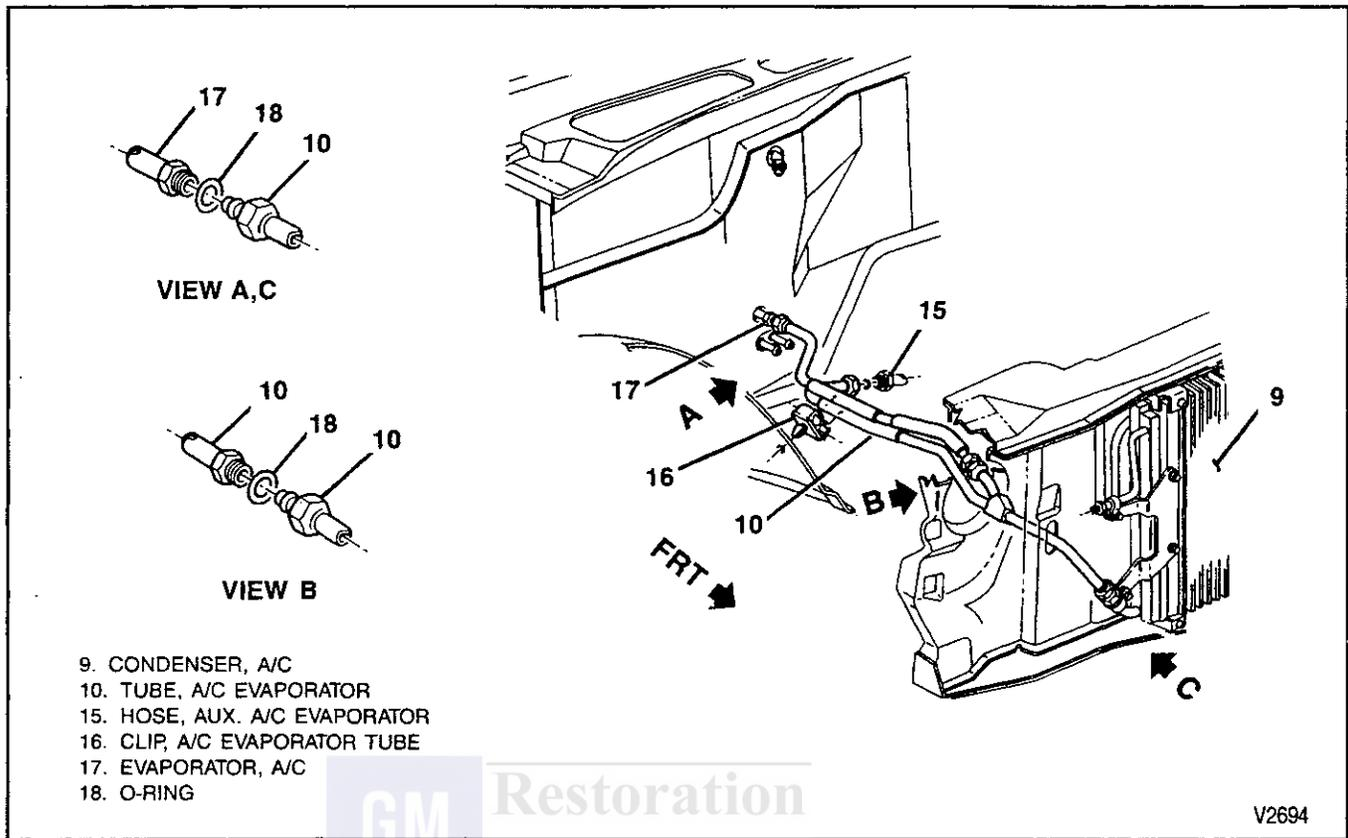

Figure 41—Auxiliary Evaporator Tube
↔ Remove or Disconnect (Figure 41)
↔ Install or Connect (Figure 41)
Remove or Disconnect (Figures 41 through 45)
3. Evaporator tube (10) from auxiliary evaporator hose (15) (figure 41).
Install or Connect (Figures 41 through 45)